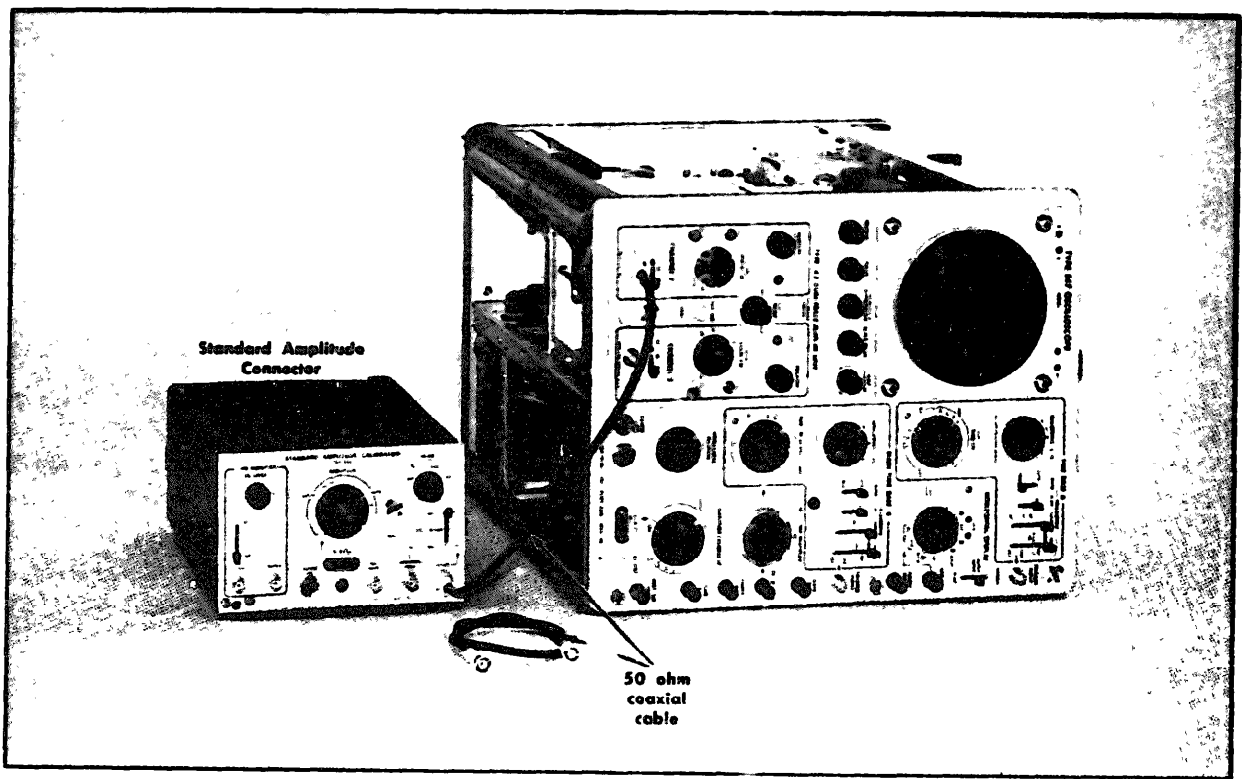

Fig 7-8 Initial equipment setup for steps 17 and 18
- a. Equipment setup is shown in Fig 7.8